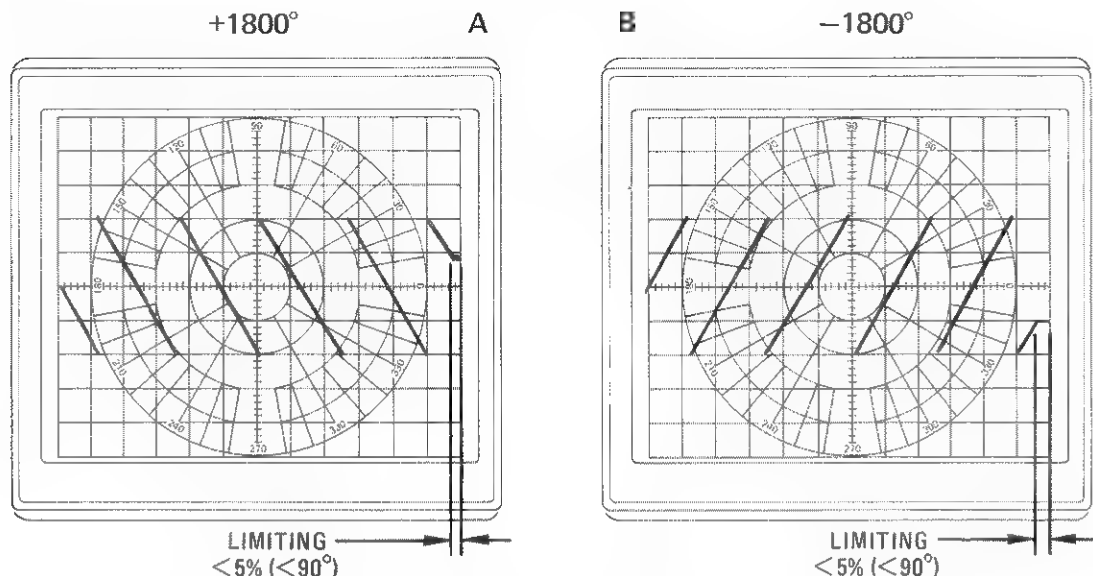

Figure A2-23. Phase Trace with Maximum Electrical Length Added
- o. With ELECTRICAL LENGTH offset pushbuttons, put in +1800 degrees of electrical length. (The electrical length readout displays +180.) Verify that five transitions are displayed and that the linear phase display limits over approximately the last 5% of the trace. (See Figure A2-23, Photo A.)
- q. With ELECTRICAL LENGTH offset pushbuttons, put in -1800 degrees of electrical length. (The electrical length readout displays -180 .) Verify that five transitions are displayed and that the linear phase display limits over approximately the last 5% of the trace. (See Figure A2-23, photo B.)